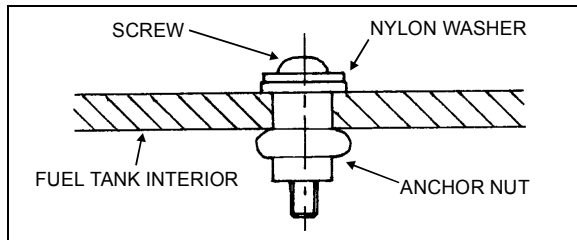

FIGURE 10: FUEL TANK REPAIR
5. Place assembly in drill hole. Tighten screw by 10 complete turns. Refer to Fig. 10.